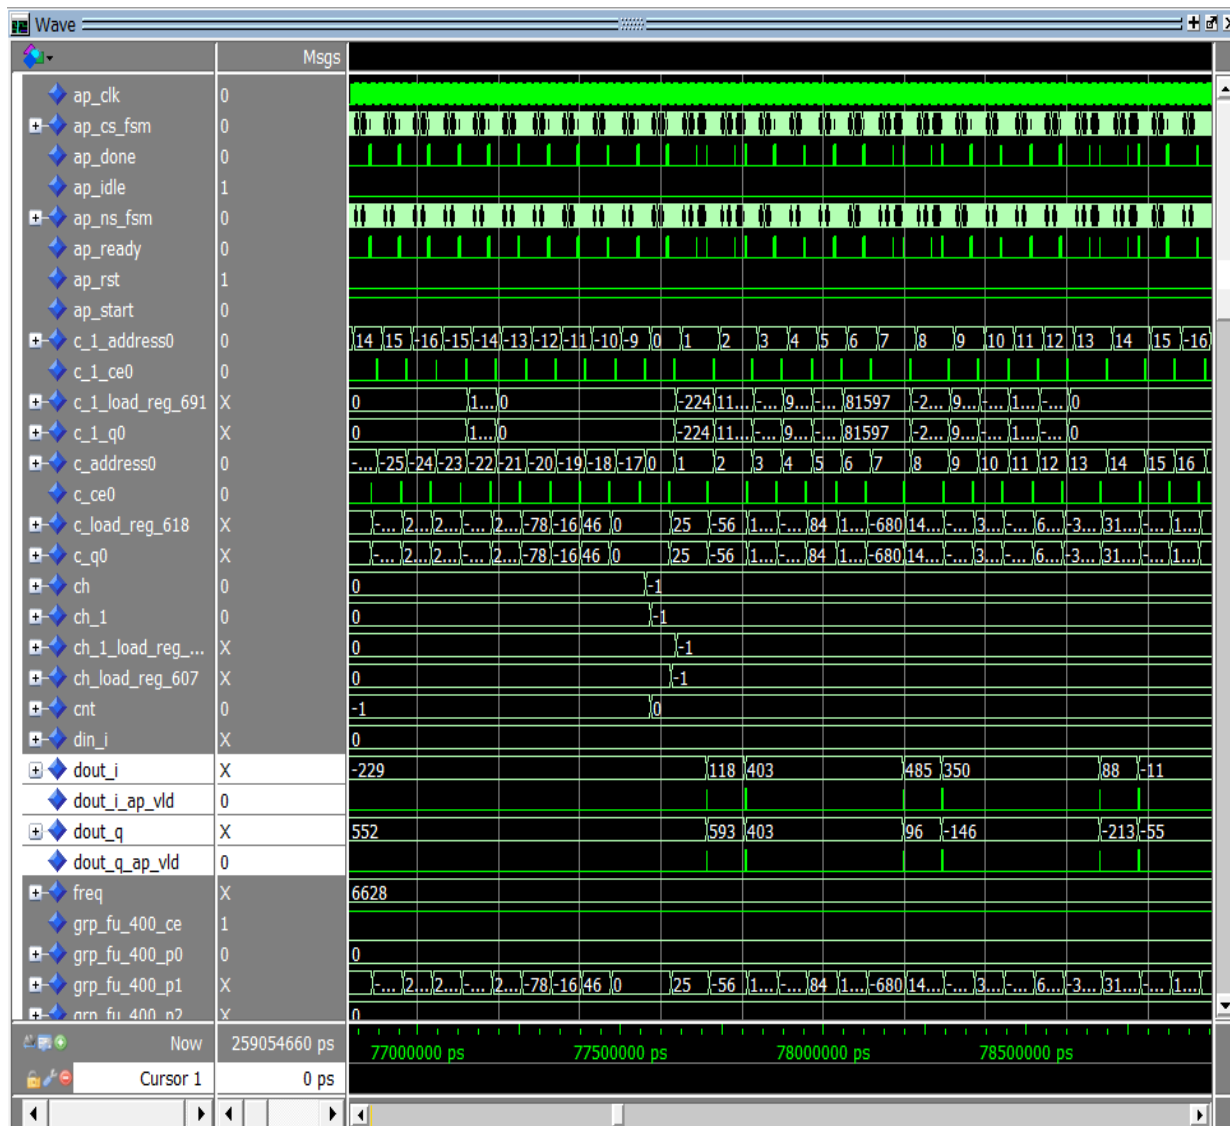

Figure 8-19: Viewing the Trace File in ModelSim
6. Add the signals to the trace window and adjust to see a view similar to Figure 8-19.